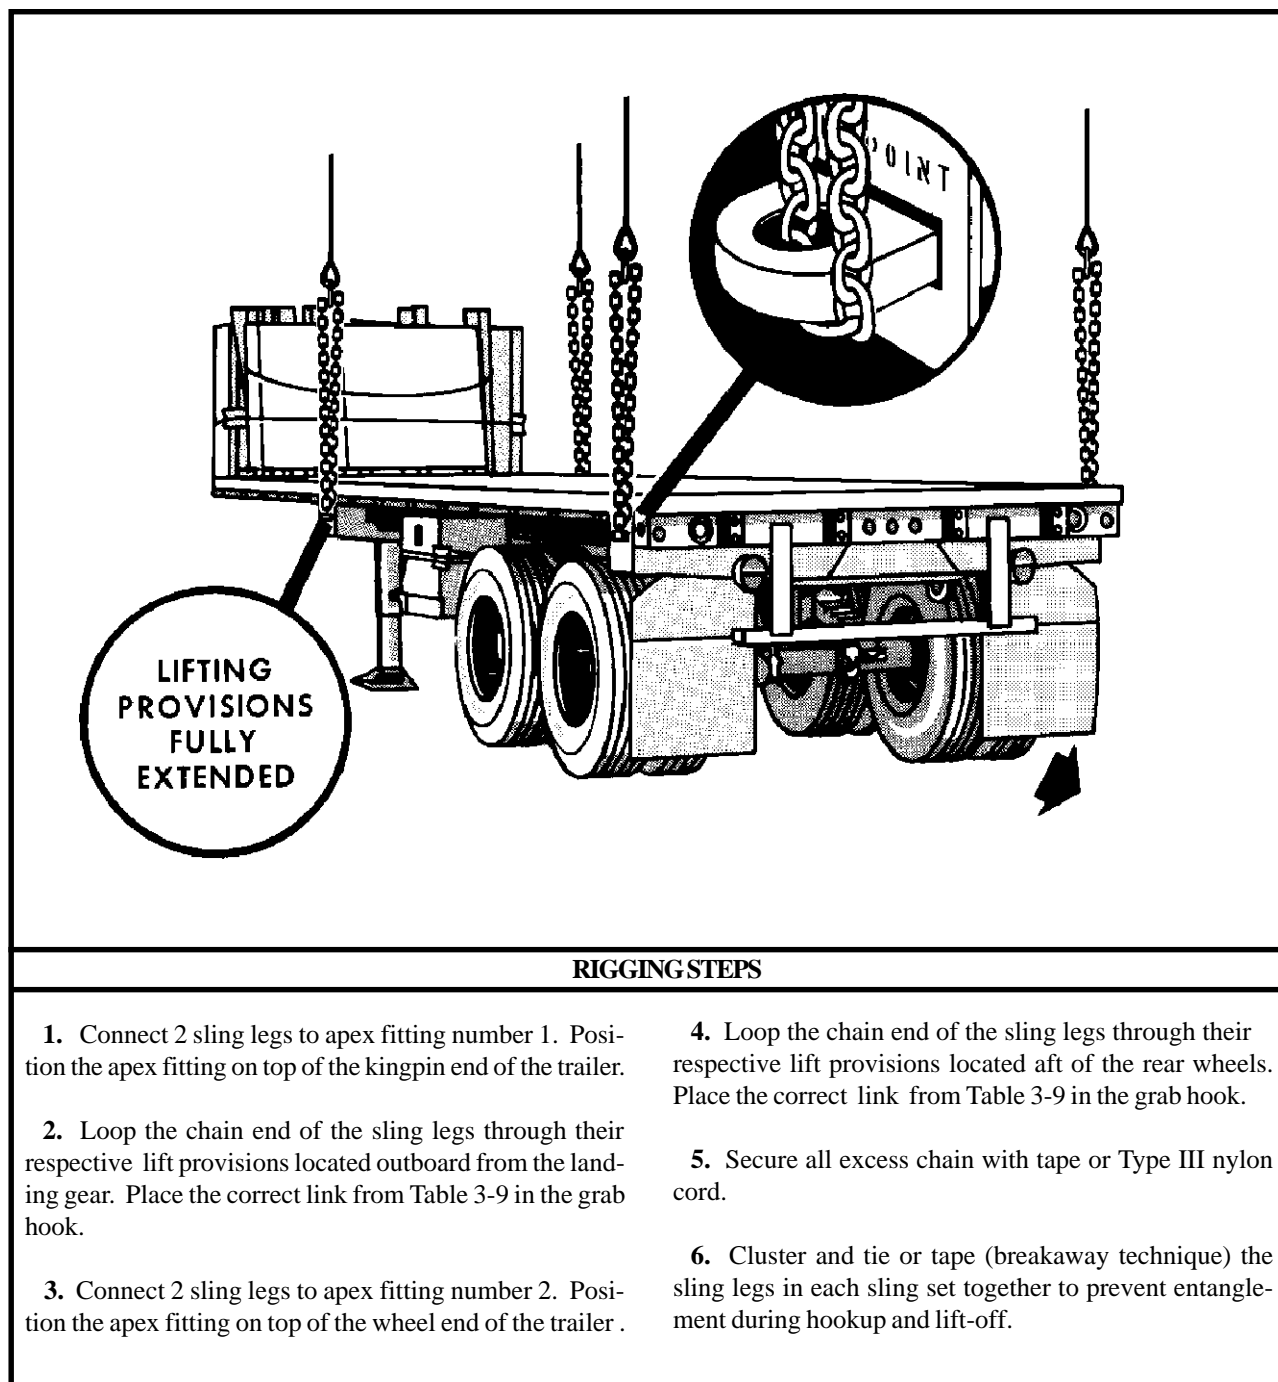

Figure 3-9. M871A1 Semitrailer
(2) **Rigging.** Rig the load according to the steps in Figure 3-9.
(4) **Derigging.** Derigging is the reverse of the preparation and rigging procedures in steps d (1) and d (2).